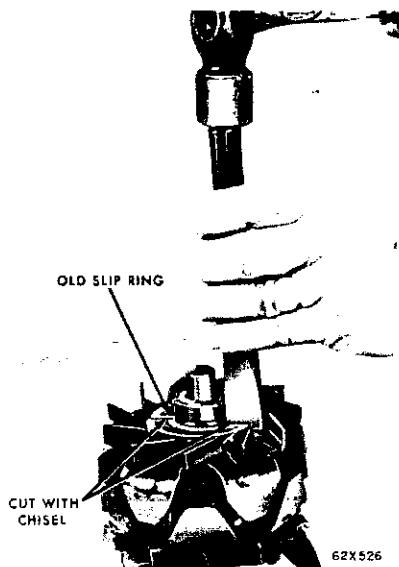

Fig. 68—Cutting the Old Slip Rings
- (2) Cut through the copper of both slip rings at opposite points (180° apart) with a chisel (Fig. 68).
- (3) Break the insulator and remove the old ring.
- (4) Clean away dirt and particles of the old slip ring from the rotor.